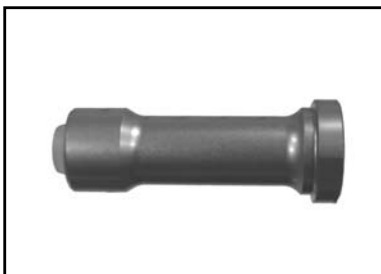

Fig. 38 – HK MR762A1 Proprietary Buffer
**WARNING: Ensure that only the proprietary HK buffer and recoil spring (action spring) are installed in the MR762A1. Use of non HK buffers and recoil springs could result in cycling problems and affect the reliability of the MR762A1 (Fig. 38).**